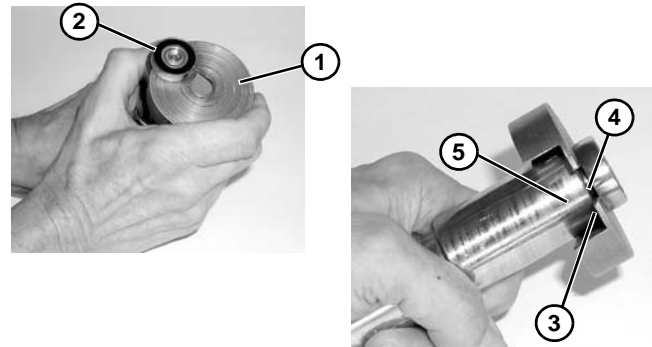

Figure 120
1. Place bearing removal tool part #456063 (Figure 120, item 1) below bearing (Figure 120, item 2) with lip (Figure 120, item 3) located in gap (Figure 120, item 4) between bearing and spindle hub (Figure 120, item 5) as shown.